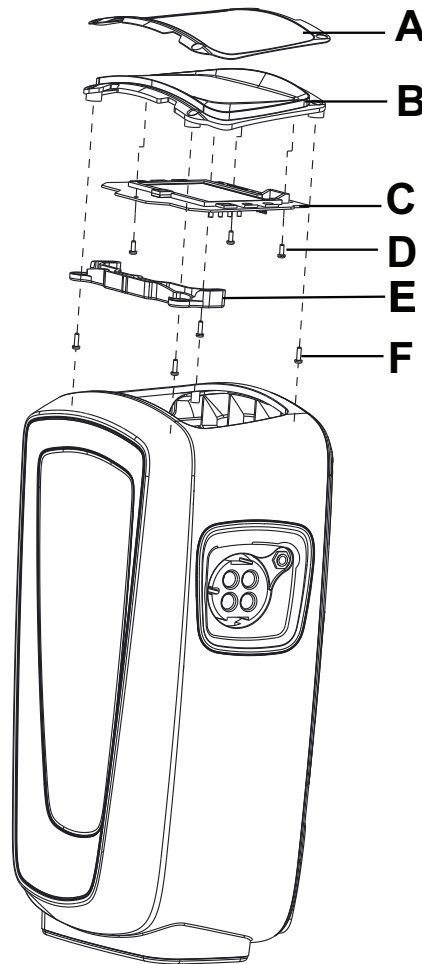

Figure 11 – PCBA assembly
10. Using a #2 Phillips screwdriver, remove the three screws (D) that secure the board to the PCBA assembly (B and C) to the screen (A) (Figure 11). Save the screws.